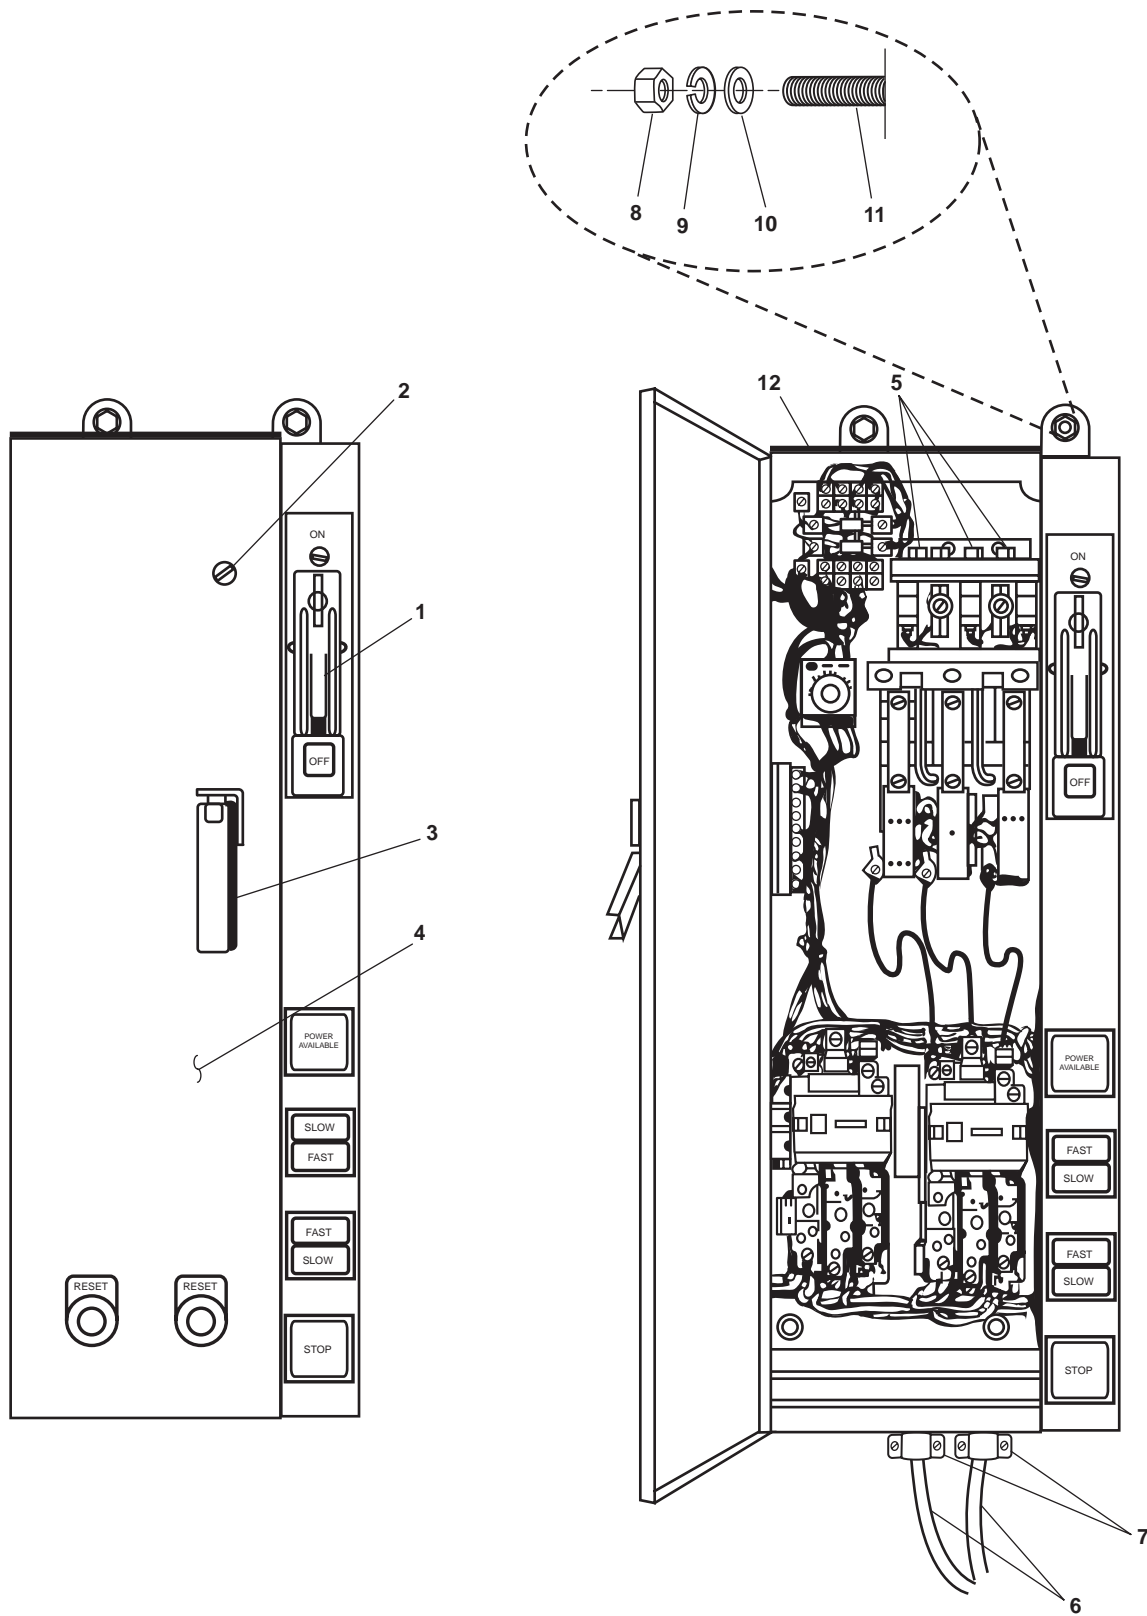

Figure 1. Type 2 Motor Controller
1. Set to OFF the switch handle (figure 1, item 1).
2. Loosen the motor controller door screw (figure 1, item 2) and turn the handle (figure 1, item 3) to open the door (figure 1, item 4).
3. Use a multimeter to check for voltage at the motor controller terminals (figure 1, item 5). If voltage is present, ensure that the correct circuit breakers are secured, locked out, and tagged out (FM 55-502). If no voltage is present, continue with the procedure.
4. Label and remove the wiring (figure 1, item 6) from the motor controller terminals (figure 1, item 5).
5. Loosen the strain relief clamps (figure 1, item 7), and remove the wiring (figure 1, item 6) from the motor controller.
6. Remove the four nuts (figure 1, item 8), the four lockwashers (figure 1, item 9), and four flat washers (figure 1, item 10) from the studs (figure 1, item 11). Discard the lockwashers.
7. Remove the motor controller (figure 1, item 12) from the studs (figure 1, item 11).
1. Position the motor controller (figure 1, item 12) on the studs (figure 1, item 11), and secure it with the four nuts (figure 1, item 8), four new lockwashers (figure 1, item 9), and four flat washers (figure 1, item 10).
2. Route the wiring (figure 1, item 6) through the strain relief clamps (figure 1, item 7) and into the motor controller (figure 1, item 12).
3. Connect the wiring (figure 1, item 6) to the terminals (figure 1, item 5) using the labels from step 4 of Removal as a guide. Remove the labels.
4. Tighten the strain relief clamps (figure 1, item 7).